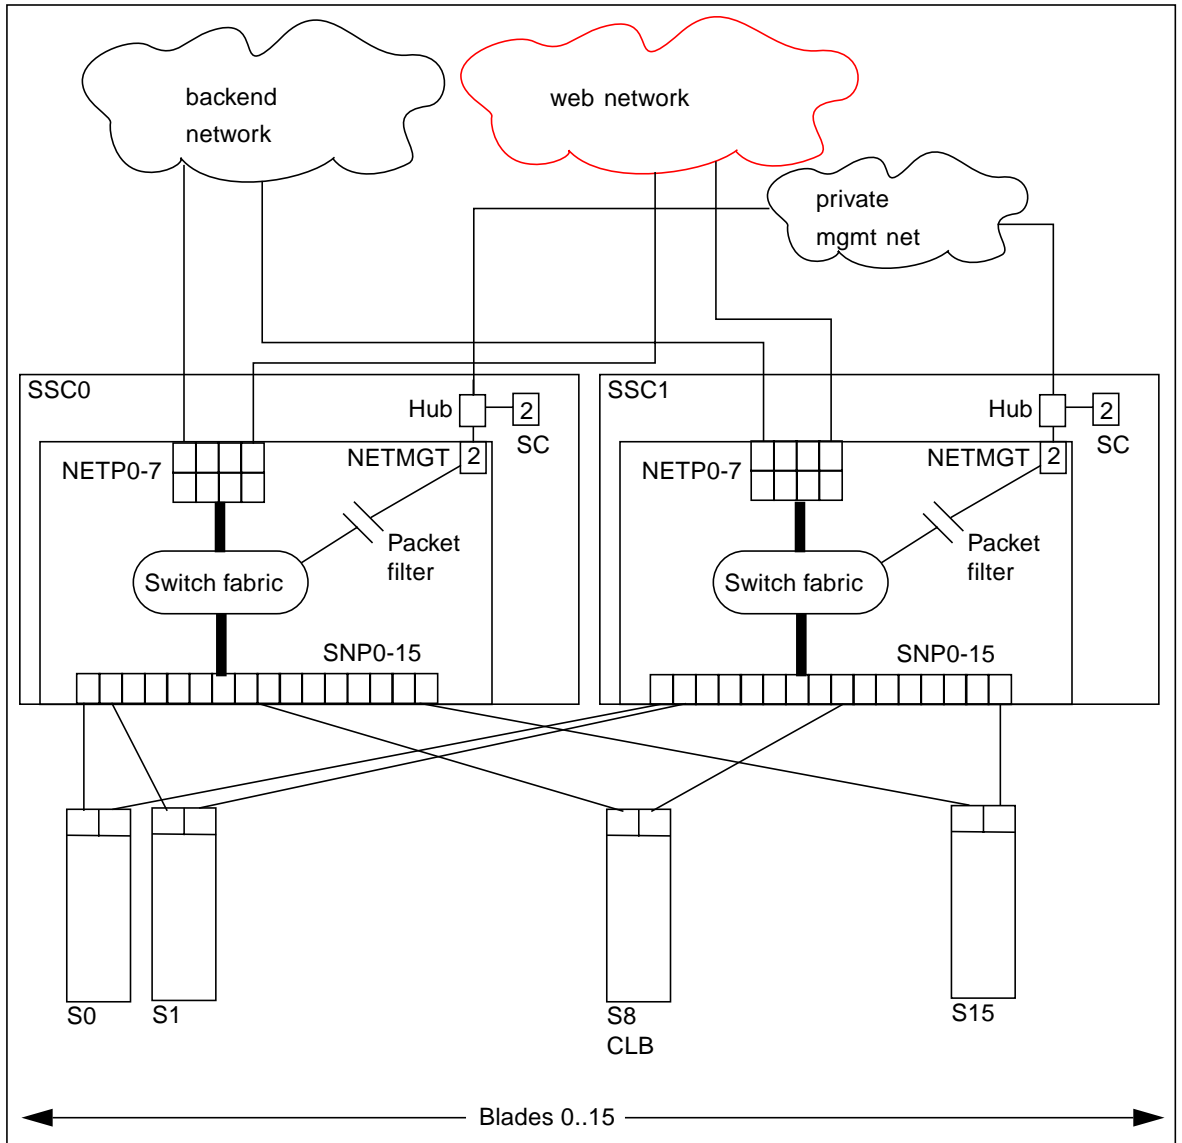

FIGURE 1-2 A Dedicated Management Network and Web Server Network Isolated from the Backend Network
The numerals associated with each port (either 1 or 2), represent the VLAN numbers programmed into the system by default. The numbers indicate that there is one data VLAN (1), and one management VLAN (2). Further VLAN partitioning might be desirable as shown in FIGURE 1-2. The actual VLAN-ID assignment can be coordinated with the VLANs used in the external switches, or its scope can be limited to the internal switches, by keeping the uplinks as untagged VLANs.